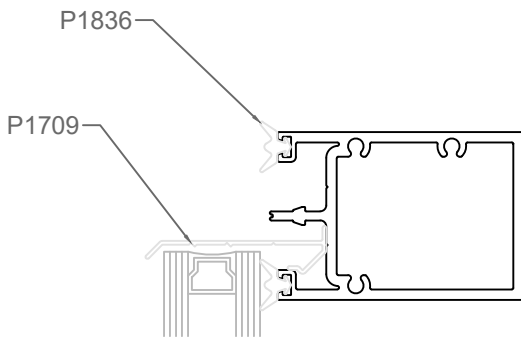

FIG. 2
- B. Install P1709 water diverter on top of the glass. Fig. 2.